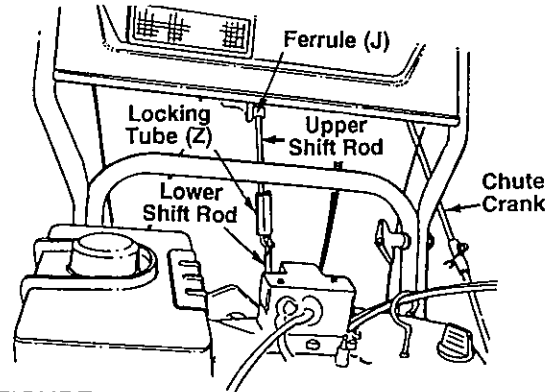

FIGURE 11
- Slide the locking tube (Z) over the threaded end of the upper shift rod.
- Thread the ferrule (J) on the threaded end of the upper shift rod.
- Secure the upper and lower shift rods with cotter pin (G) and slide the locking tube down as shown in figure 11.